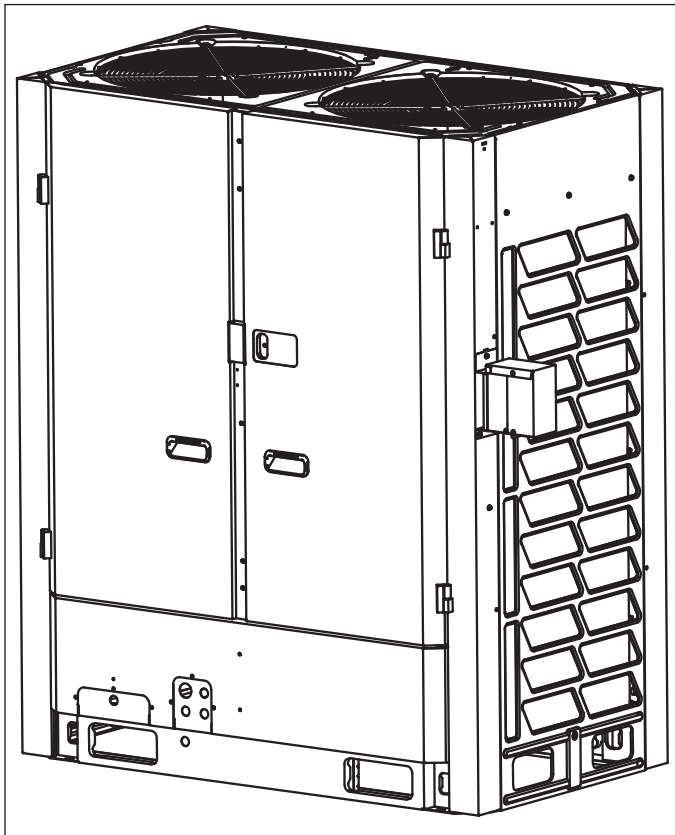

Figure 1. Mount Directly to Outdoor Unit
1. Mount the water-proof enclosure box to the outdoor unit or coil guard using the provided holes **ONLY**. See Figures 1 and 2. No other electrical devices should be mounted to the outdoor unit cabinet.